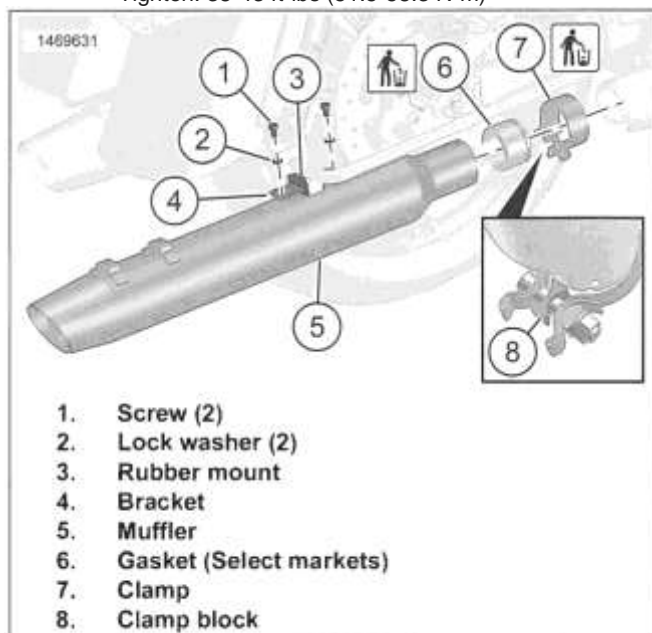

Figure 6-38. Muffler
1. See Figure 6-38. Remove muffler.
- a. Remove screws (1) and lock washers (2).
- b. Loosen clamp (7).
- c. Remove muffler (5).
- e. Discard gasket (6).
2. Inspect rubber mount (3). Replace if required.
1. See Figure 6-38. Install muffler.
- a. Install **new** gasket (6) in muffler (5).
- b. Slide **new** clamp (7) onto muffler.
- c. Install muffler to bracket (4) with screws (1) and lock washers (2). Tighten. 14-18 ft-lbs (19-24.4 N-m)
- d. Position clamp block (8) away from slot as shown. Tighten. 38-43 ft-lbs (51.5-58.3 N-m)